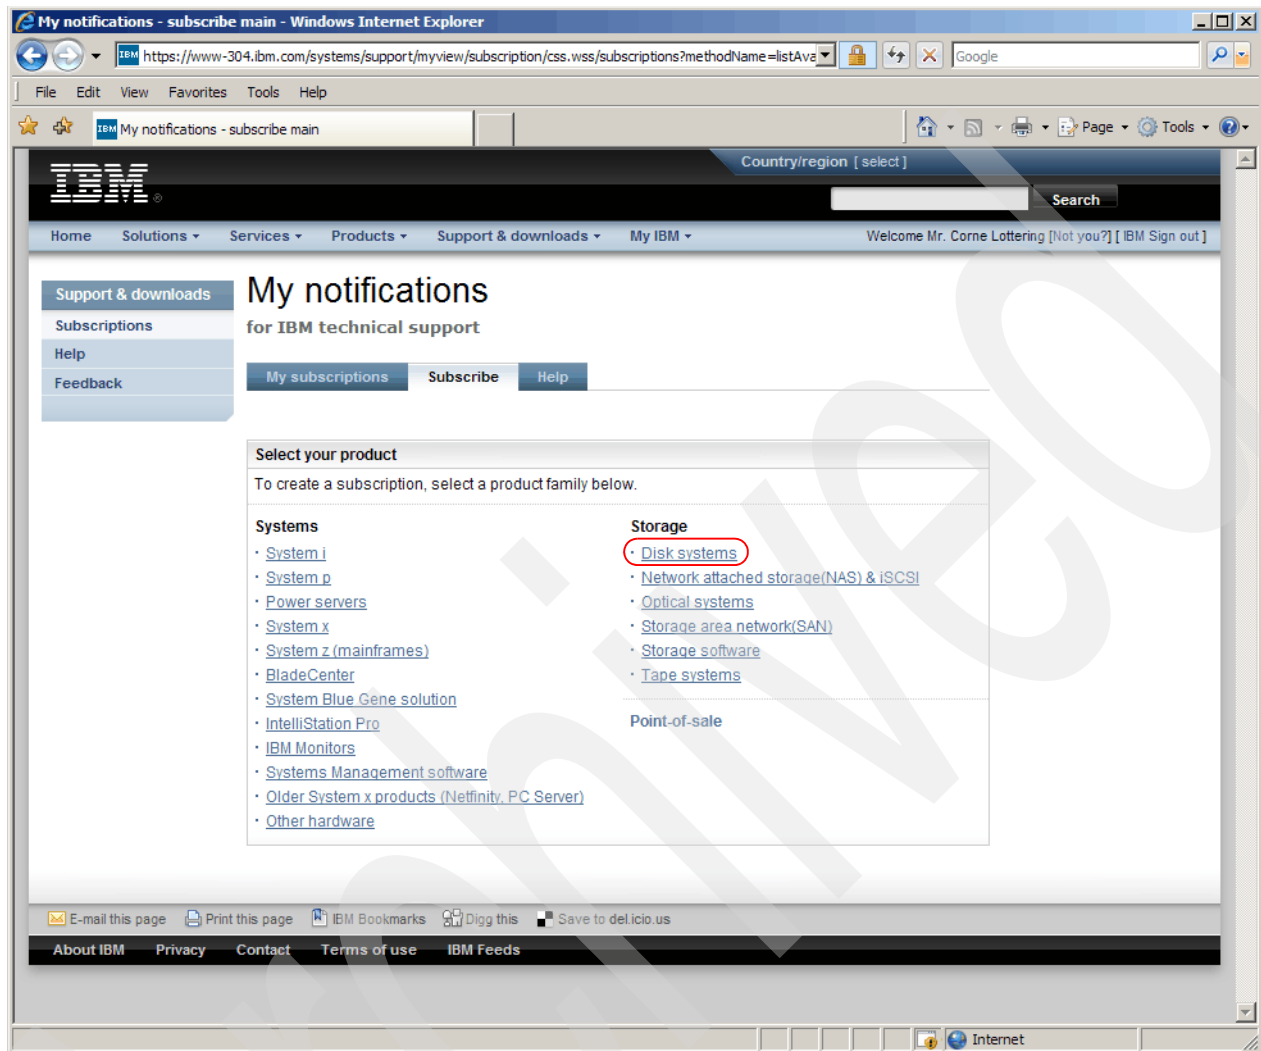

Figure B-9 IBM My notifications - Main page
3. The My notifications main page opens, as shown in Figure B-9. Click the **Disk systems** link.